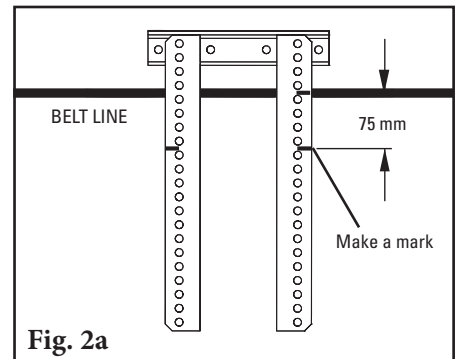
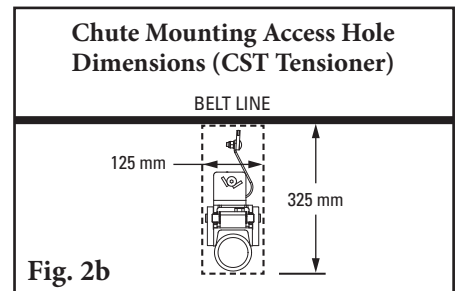

Fig. 2a
Fig. 2b
**2. Install the SST mounting base.** On the cartridge access (service) side of the conveyor, make a mark on the long bracket 75 mm below the belt line (Fig. 2a); this will be needed in Step 3. On the opposite side, bolt the SST tensioner mounting base into position so the top flange of the base is 45 mm below the belt line (Fig. 2b). Adjust the tension nut to the top of the adjusting rod.
**2. Install one CST mounting base.** On both sides of the conveyor, make a mark on the long brackets 75 mm below the belt line (Fig. 2a); this will be needed in Step 3.
**NOTE:** For chute mounting, a belt location line must be drawn on the chute wall so the mounting bases can be aligned with the belt. Cut an access hole as shown for the CST tensioner (Fig. 2b).
**Option A: Handle always on cartridge (Fig. 2a).**
**Option B: Handle stored inside pole (Fig. 2b).**